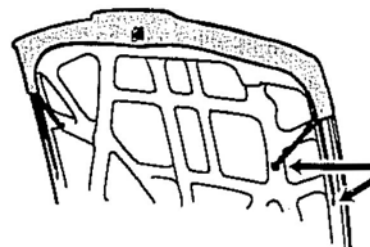
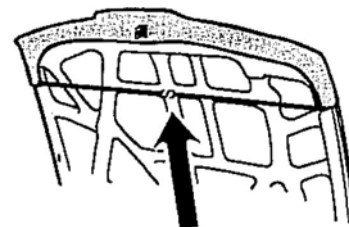

figure 3
figure 4
- 1.6 Stretch the hood section's straps in the direction in which they are sewn and attach the s-hook to the opening in the underside of the hood as shown in figure 3. If the straps are sewn so that they point directly across the underside of the hood and/or an s-hook is present on only one strap, that hook will catch the elastic or webbing loop on the opposite strap or opposite side as shown in figure 4.